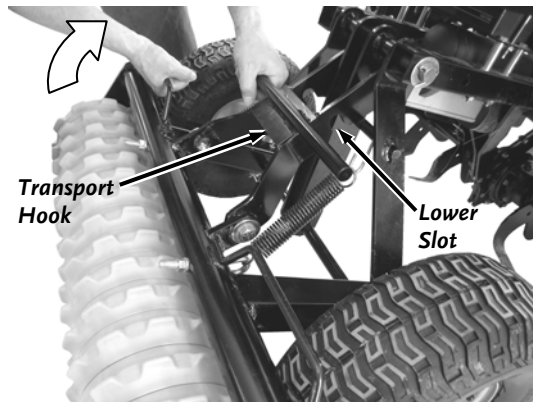

Figure 25
10. Lift the Culti-packer as you rotate the Hook Assembly forward until the Lower Slots of the Hook Assembly can be hooked over the Support Rod (Figure 25).